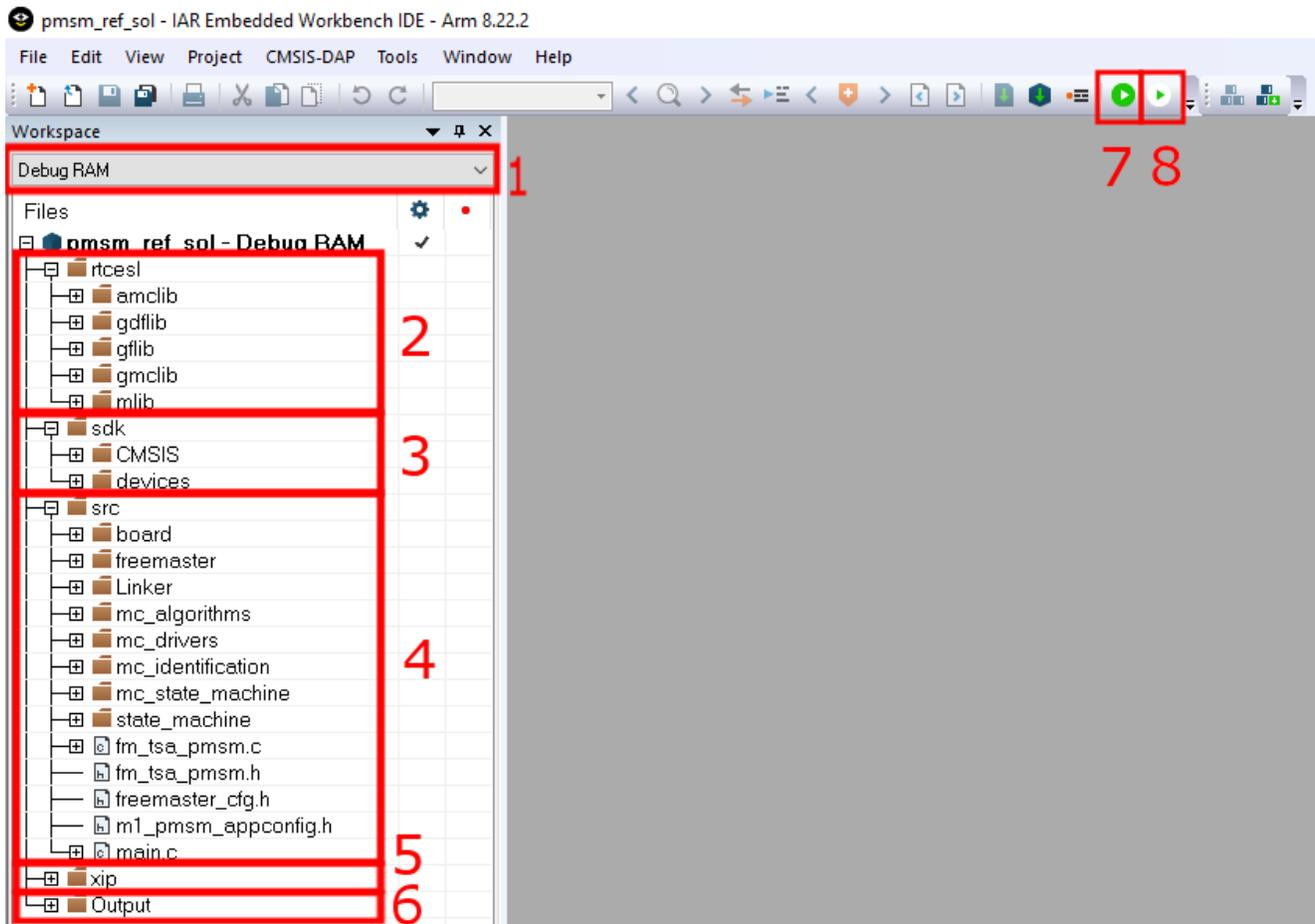
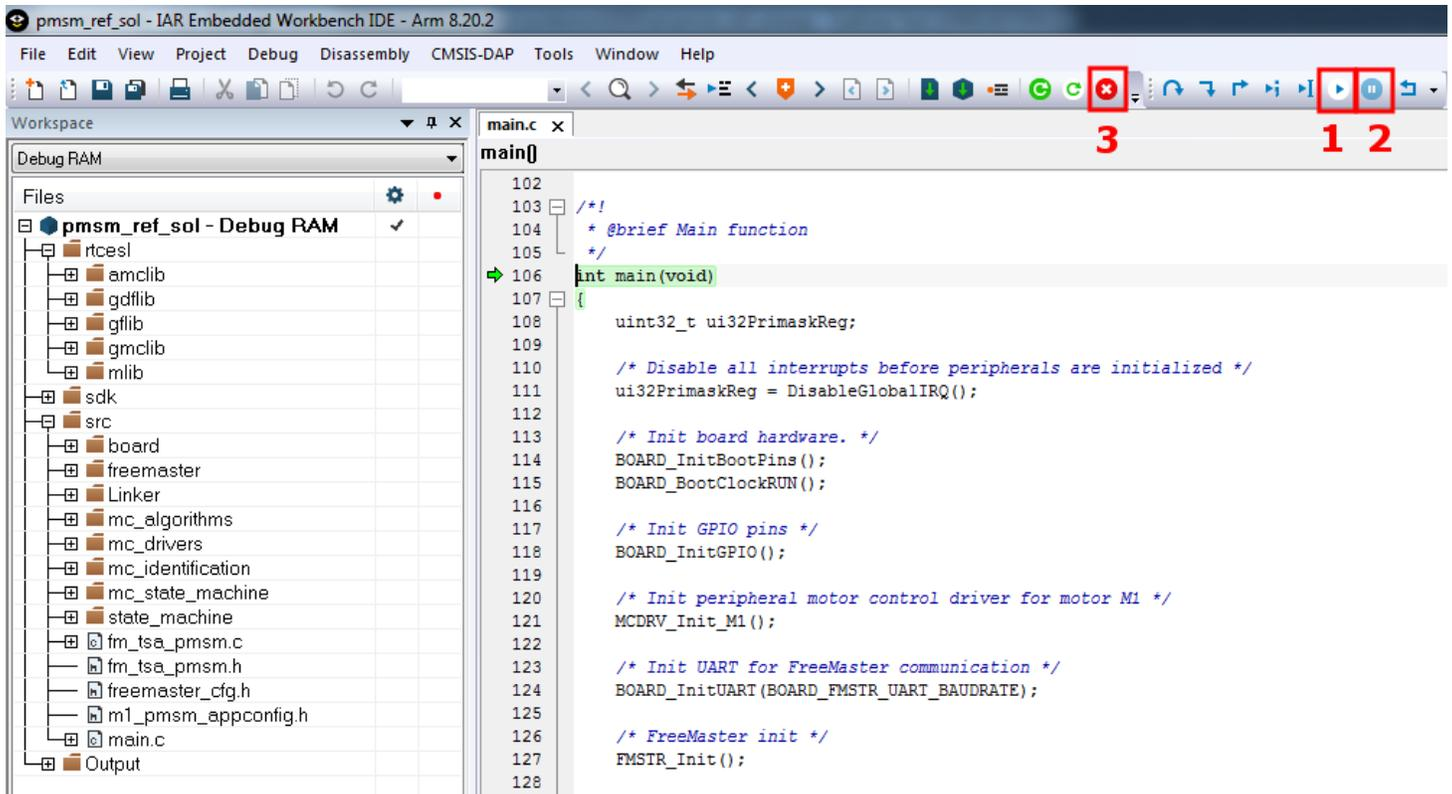

Figure 14. IAR IDE workspace
Figure 15. IAR debug workspace
- Point 1 in Figure 14 shows the current build configuration. You can choose between the Debug RAM and Release FLASH configurations. Each of the two conditions has its own settings (described below).
1. Select the “Debug RAM” build configuration (Point 1 in Figure 14).
4. After a successful build, the application is ready to be downloaded to the RAM. To perform this action, just press “CTRL+D” or click the “Download and Debug” button (Point 7 in Figure 14).
5. As shown in Figure 15, the layout is switched to the debugging mode.
- To run the application, press the “Go” button (Point 1 in Figure 15).
- To pause the running application, press the “Pause” button (Point 2 in Figure 15).
- To stop debugging, press the “Stop” button (Point 3 in Figure 15).
2. Select the “Release FLASH” build configuration (Point 1 in Figure 14).
5. After a successful build, the application is ready to be downloaded to the Hyper Flash. To perform this action, press “CTRL+D” or click the “Download and Debug” button (Point 7 in Figure 14).
6. As shown in Figure 15, the layout is switched to the debugging mode. The debugger does not perform reset. It just connects to the running target.
- To stop the debugging, press the “Stop” button (Point 3 in Figure 15).
4. Create a new debug configuration by clicking the “Debug” button (Point 3 in Figure 14). A new window with the discovered probes appears (see Figure 15). Choose “DAPLink CMSIS-DAP” and click the “OK” button.